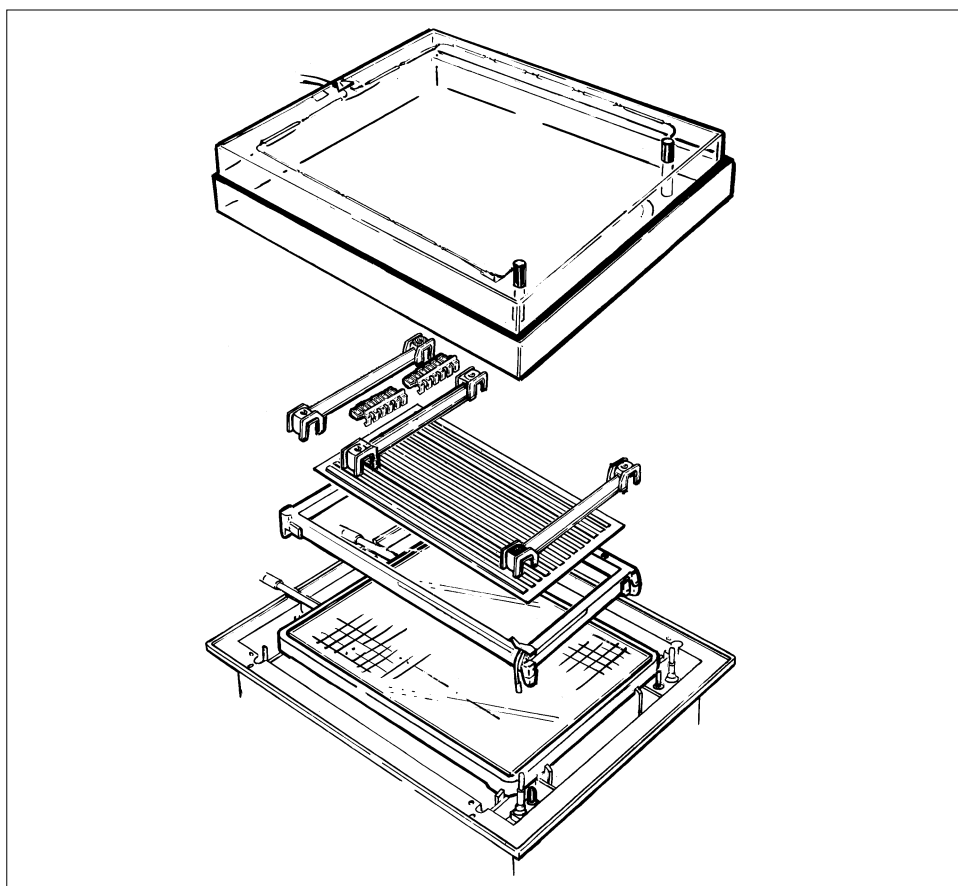

Fig. 20.
- Fig. 20 shows the complete arrangement of the equipment.